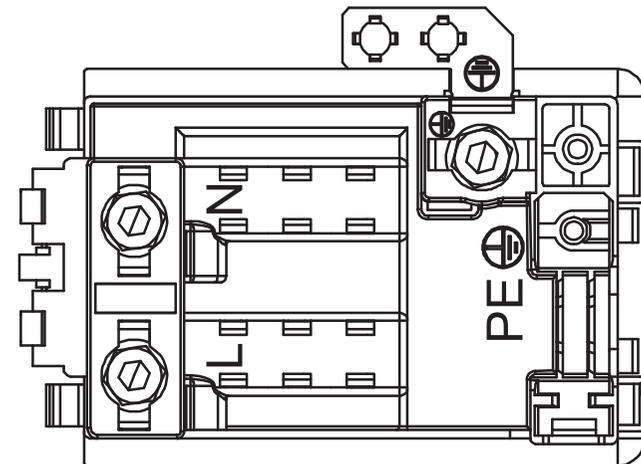

Figure 5
- » Use the following connection diagram (Figure 5):